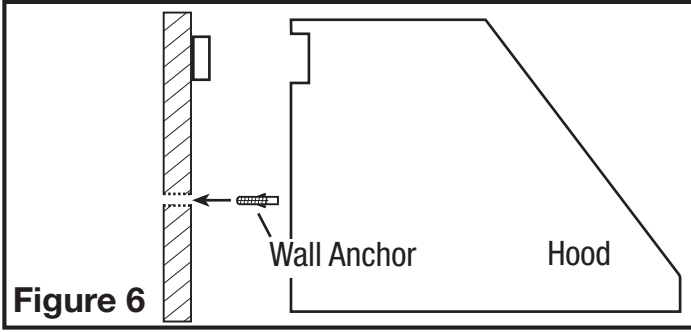

Figure 6
- Rest the cavity in the back side of the hood on the wood strip and mark drilling locations on the wall for wall anchors on the bottom rear of the hood then remove hood and install wall anchors (Figure 6).
NOTE: When the duct termination is similar to that shown in Figure 6 (passing through the wall to which the hood is mounted) the installation requires special consideration. Depending upon where the wall studs are located, it may be necessary to cut one or more of the wall studs and install a header and footer to transfer the load to the adjacent studs. Additional studs may need to be framed into the opening to attach dry wall or secure the hood. If this is your situation Air King recommends that you hire a professional and comply with all applicable codes.